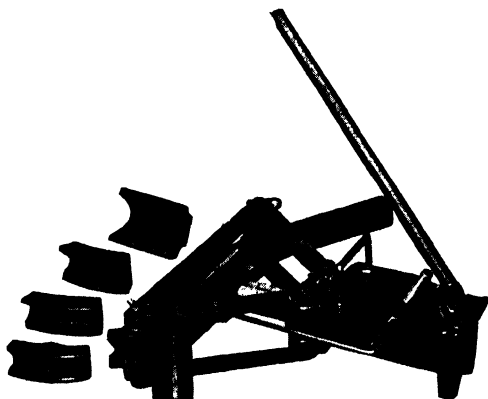
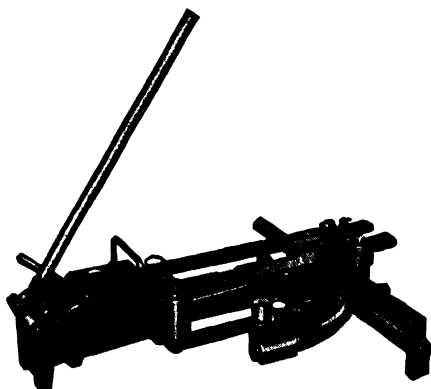

Fig. 27. Hydraulic Type Conduit Bender
Fig. 28. Hydraulic Conduit Bender for Thin-Wall Tubing
**Hydraulic Bender.** For making bends and offsets in conduit on the job nothing equals this tool, see Fig. 27, for rigid conduit and Fig. 28 for thin-wall conduit. But, while they are splendid tools,